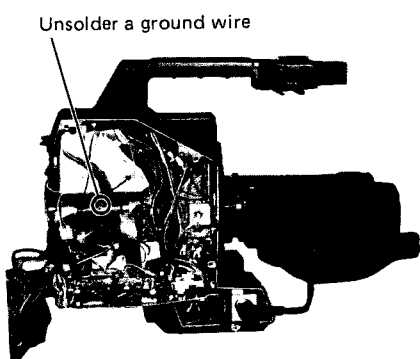

Fig. 3-2-3
- o Unsolder the ground wire. (Fig. 3-2-3)